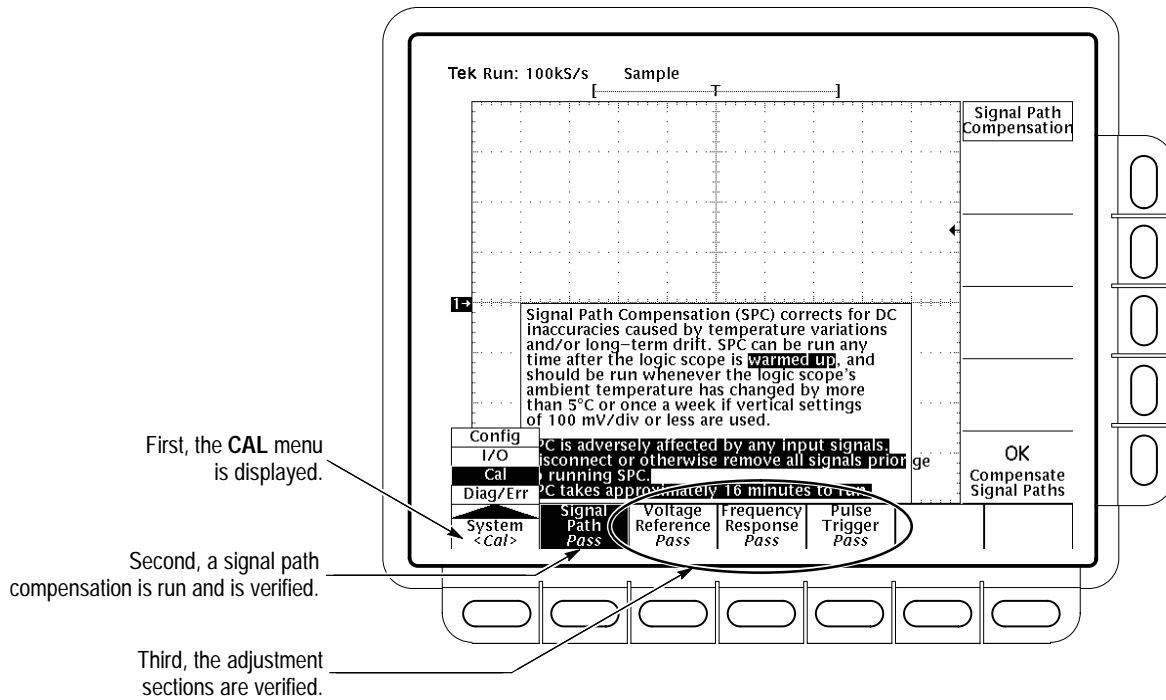

Figure 4-2: Verifying Adjustments and Signal-Path Compensation
- j. Verify that the word **Pass** appears under **Signal Path** in the main menu. (See Figure 4-2.)